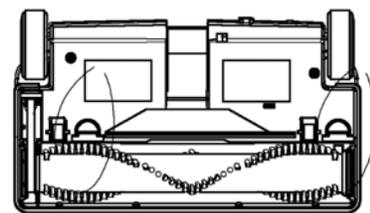

Figure 7.
2. Insert a string around the brush roller close to the cogged belt. Pull both ends of the string upwards so that the brush roller disengages from the base (as shown in Figure 7). Similarly, disengage the other end.